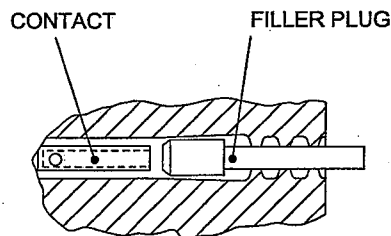

Fig 38 Filler plug positioned in rear of insert
26.2 Unwired contacts must be inserted into the connector insert and the filler plug then pressed into the insulator by hand pressure behind the contact (Fig 38).